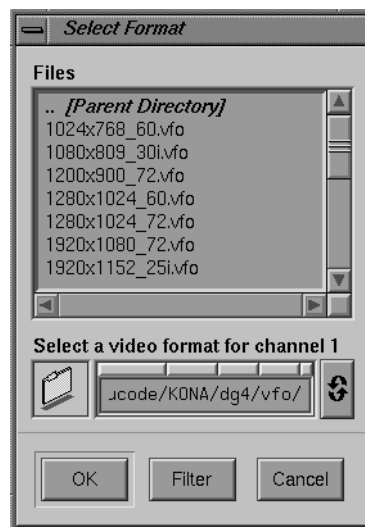

Figure D-3 Selecting a Channel Format
2. In the Files window that appears, select the *640x480_60.vfo* file as the video format for that channel; see Figure D-3.